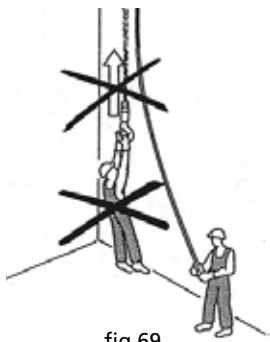

fig.69
- ▶ **NEVER** use the hoist for lifting and transporting people (fig. 69).